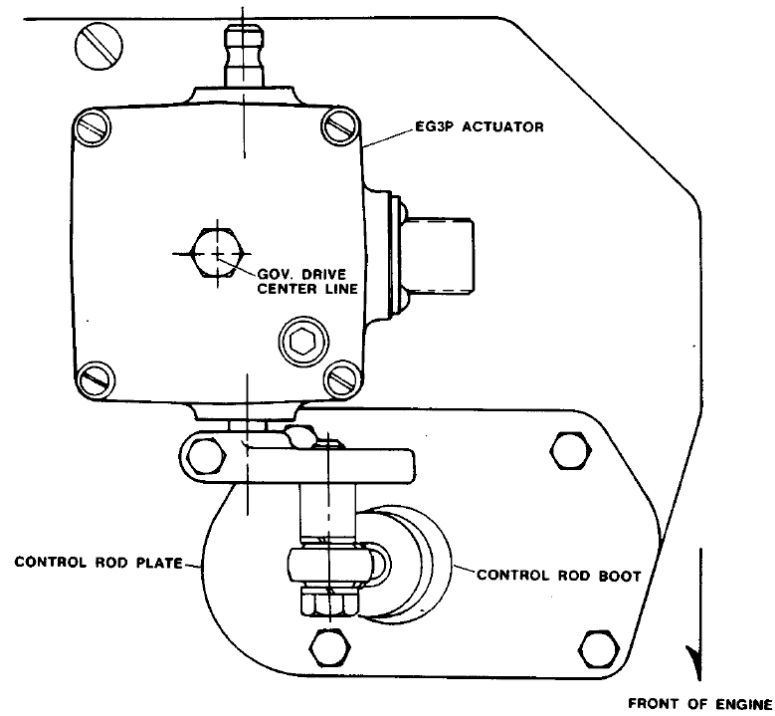
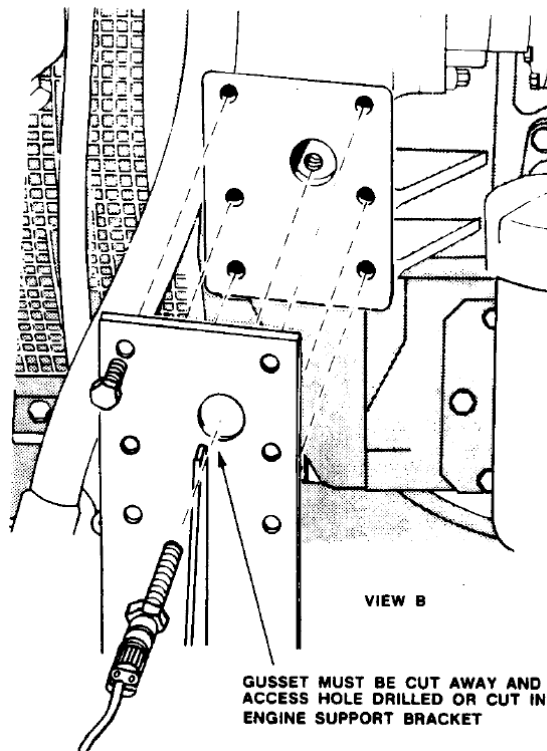

Figure 2. View of Control Rod Plate in Relation to EG-3P Actuator
Figure 3. Magnetic Pickup Installation
2. Install two hold down studs (1) in the actuator pad.
4. Install new control rod plate (5) (see Figure 2).
7. Install drain adapter gasket (4) over hold down studs.
8. Install rod end (13) and spacer (9) on output lever (12).
11. Install output lever (12) to the output shaft and adjust.
1. Install the magnetic pickup in the flat surface used for the engine support bracket on the right side of engine. Drill an access hole in the engine support bracket and flywheel housing for the magnetic pickup. See Figure 3, Views A and B for location and dimensions of magnetic pickup hole.
Figure 1, Views A and B shows the linkage arrangement and reference numbers. Figure 1, View C, shows the new control rod plate. Figure 2 shows the control rod plate in relation to the EG-3P actuator. Figure 3 shows the location of the magnetic pickup and dimensions for drill and tap. Figure 4 shows the connector assembly. Figure 5 shows the magnetic pickup assembly.